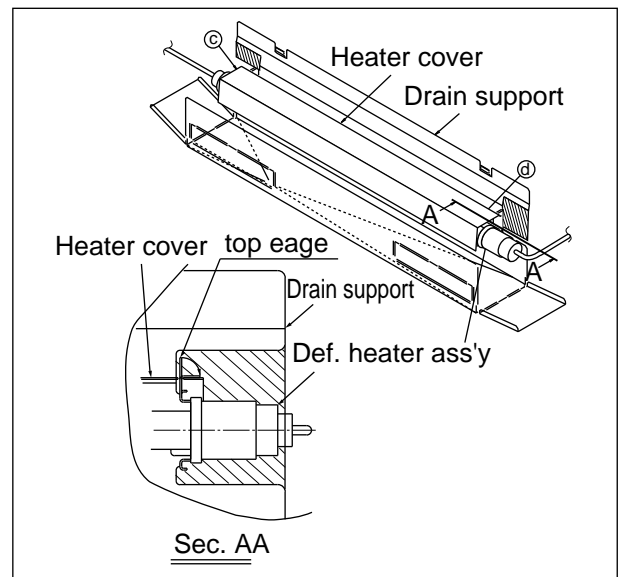

Fig. A-31
8. Set Heater cover on Drain support, and bend top edge (c) and (d) to outside as shown in Fig. A-31.